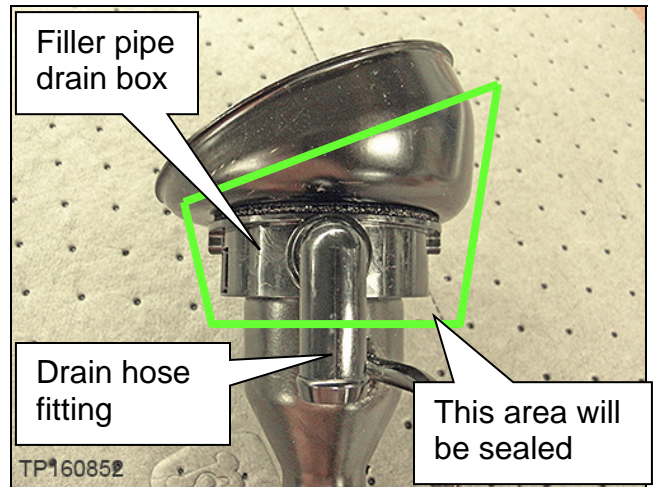

Figure 3
2. Wrap EPT foam (see **PARTS INFORMATION** on page 9) around the top of the new fuel filler pipe where indicated in Figure 3.
- Wrap the EPT foam so that its width extends above and below the fuel filler pipe drain box that is shown in Figure 3 on the previous page.